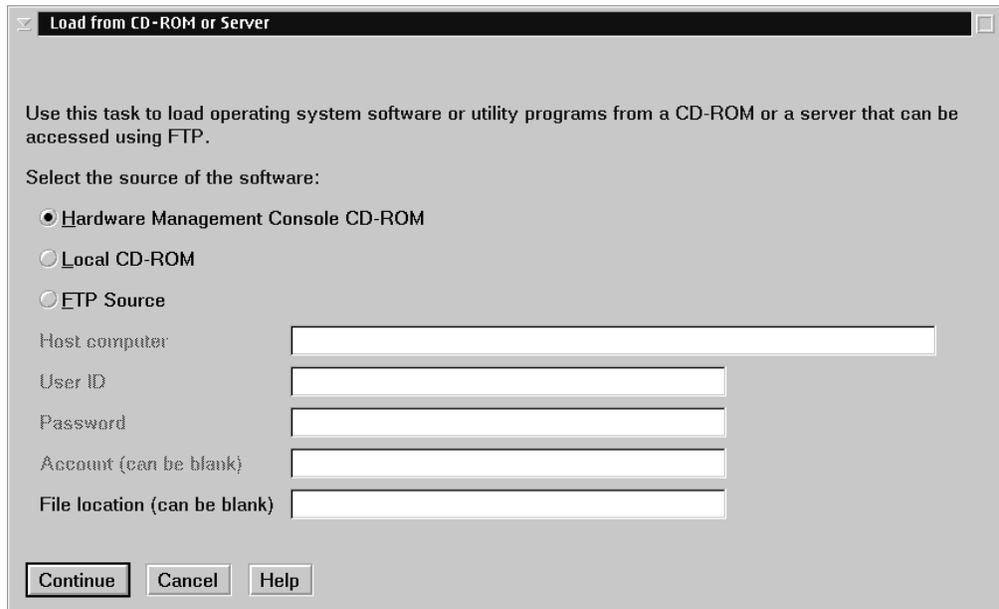

Figure 64. Load from CD-ROM or Server panel
5. Click the “Load from CD-ROM or Server” icon in the Task Area to display the “Load from CD-ROM or Server” panel (Figure 64).